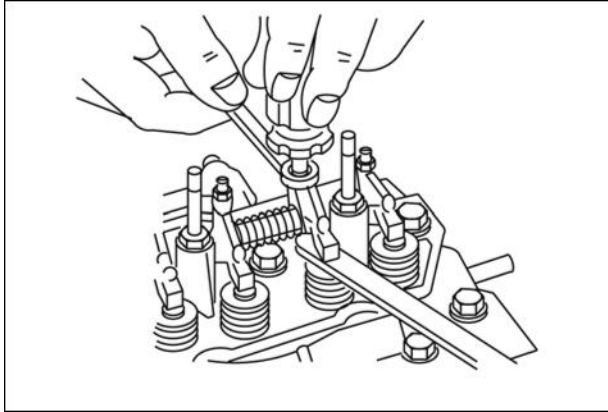

Figure 40
2. Adjust valves and check (Figure 40).